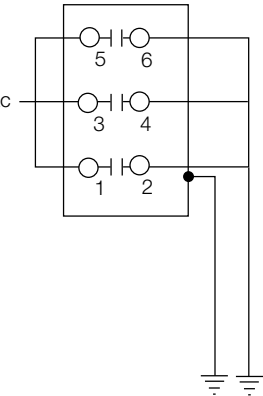

Figure 16. Terminal identification (top) and connection diagrams (bottom) for high-potential withstand testing.
Use the procedures on page 18 to perform high-potential withstand tests at 75% of the rated low-frequency withstand voltage for 60 seconds. See Table 15 for test voltages and Figure 16 for test connection diagrams.
3. Connect terminals 2, 4, and 6 (see Figure 16) together.
3. Connect and ground terminals 1, 3, and 5 (see Figure 16).